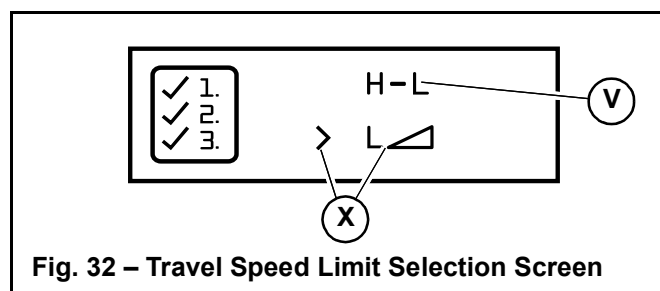

Fig. 32 – Travel Speed Limit Selection Screen
3. Press and release the interface button until the selection caret points to the travel speed limit selection (X, Fig 32). Press and hold the interface button for 5 seconds.
- Repeat travel speed limit activation, with the exception of moving the selection caret to the “H-L” selection (V, Fig 32).